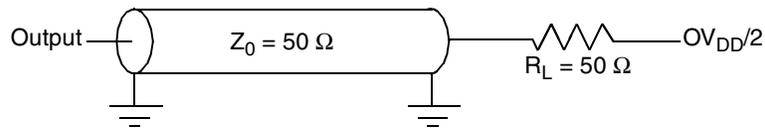

Figure 4. AC Test Load
- All input specifications are measured from the midpoint of the signal in question to the midpoint of the rising edge of the input SYSClk. All output specifications are measured from the midpoint of the rising edge of SYSClk to the midpoint of the signal in question. All output timings assume a purely resistive 50-Ω load (see Figure 4). Input and output timings are measured at the pin; time-of-flight delays must be added for trace lengths, vias, and connectors in the system.
- The symbology used for timing specifications herein follows the pattern of $t_{(signal)(state)(reference)(state)}$ for inputs and $t_{(reference)(state)(signal)(state)}$ for outputs. For example, t_{VKH} symbolizes the time input signals (I) reach the valid state (V) relative to the SYSClk reference (K) going to the high (H) state or input setup time. And t_{KHOV} symbolizes the time from SYSClk(K) going high (H) until outputs (O) are valid (V) or output valid time. Input hold time can be read as the time that the input signal (I) went invalid (X) with respect to the rising clock edge (KH) (note the position of the reference and its state for inputs) and output hold time can be read as the time from the rising edge (KH) until the output went invalid (OX).
Figure 4 provides the AC test load for the MPC7448.